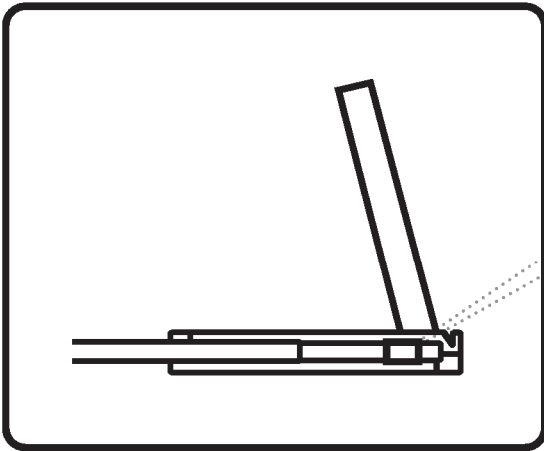

Figure 14.
- A black arrow release button is located on the outside of each slide. (shown in Figure 14).